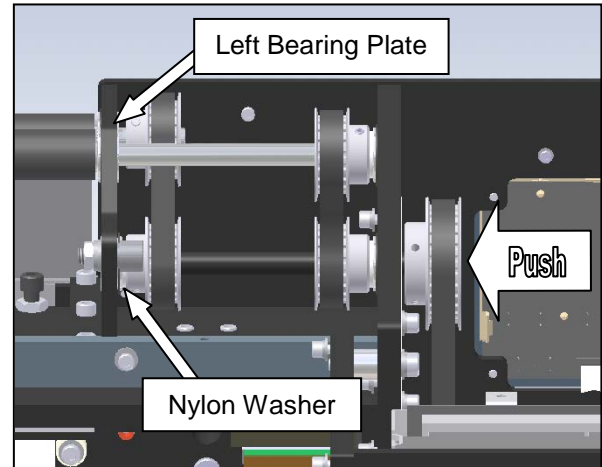

Figure 3-324. Reinserting the Transfer Shaft
16. Place the film feed roller belt over the film feed drive pulley on the transfer shaft (if removed) and ensure the nylon washer is still in position on the shaft. Slide the transfer shaft into the machine until the shaft is fully seated in the inside bearing on the left bearing plate. The outer transfer shaft pulley should be aligned with the film feed drive motor pulley when the transfer shaft is in its correct position. Once in position, insert the film feed drive pulley into the belt, and slide pulleys in unison until they are in position (Figures 3-324 and 3-325).